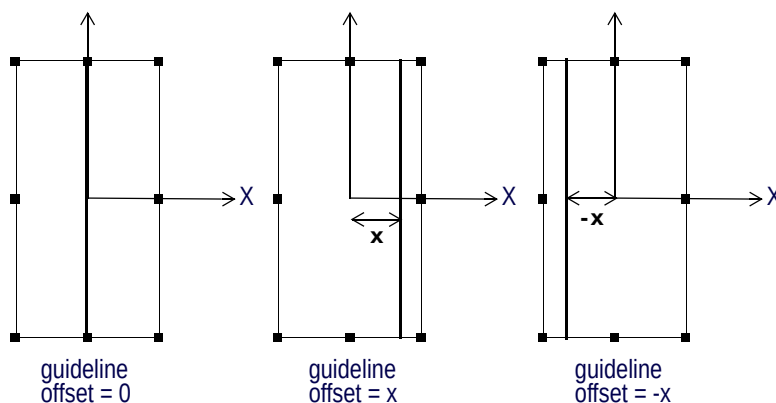

Figure 348 Point Finder — Guideline Offset
- See Figure 348 for an illustration of positive and negative **Offset** values.